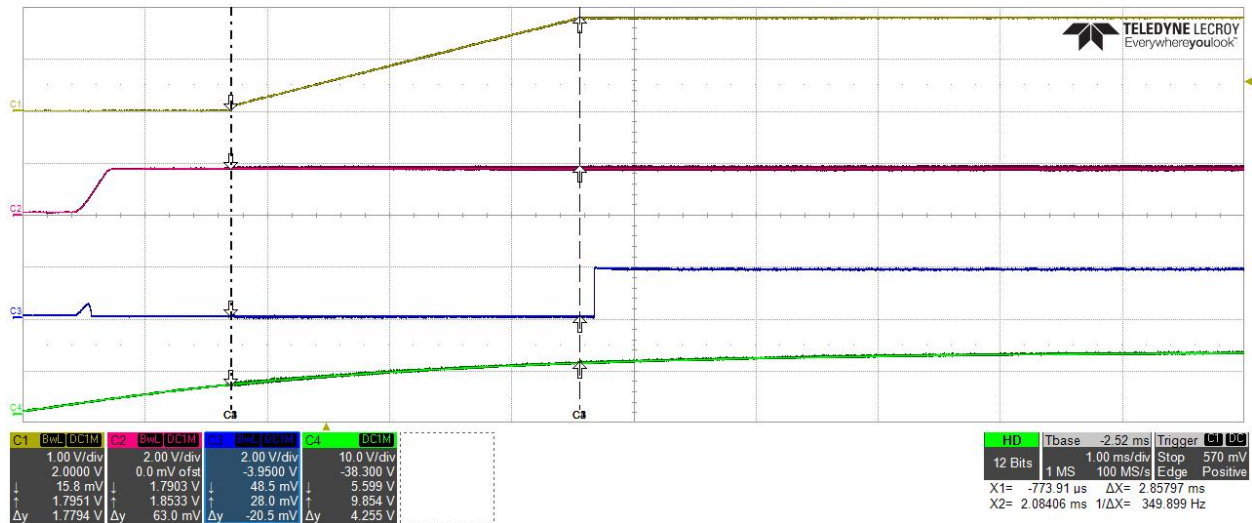

Figure 1. Startup waveforms showing  $V_{OUT}$  (C1), OE (C2), STAT (C3), and  $V_{IN}$  (C4).
- 1) Startup (**Figure 1**)
The startup waveforms for the MAXREFDES1233 are shown in Figure 1. The measurement was taken with no load on the output. The measured soft-start time is about 2.85ms, which is relatively close to the chosen design value of 3ms.